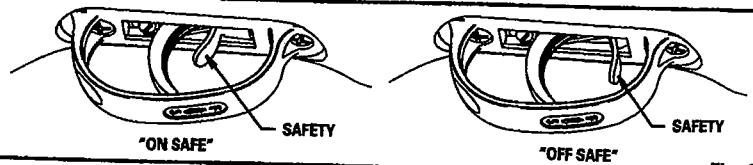

Fig. 2 -
- Locate the safety in front of the trigger. Push the safety towards the trigger to put the safety on. The safety is on, and the airgun is "ON SAFE" when the lever is in the rear position (near the trigger). (Fig. 2)
- Push the safety to the forward position (away from the trigger). When the airgun is "OFF SAFE" it is ready to be fired (Fig. 2).